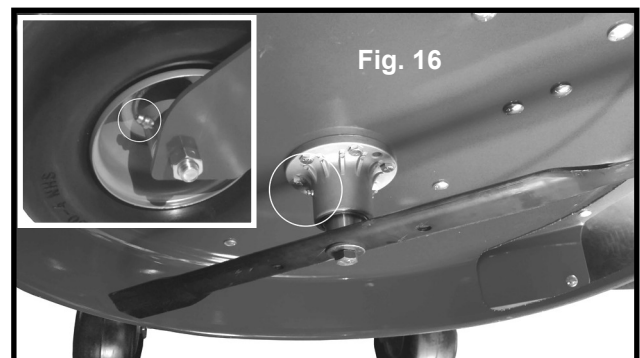

Fig. 16
**General Lubrication:** Your Sarlo mower has three grease fittings; one on each of the front caster wheels and one on the mower blade spindle. (Fig. 16) The grease fitting for the blade spindle is accessed from the underside of the mowing deck.